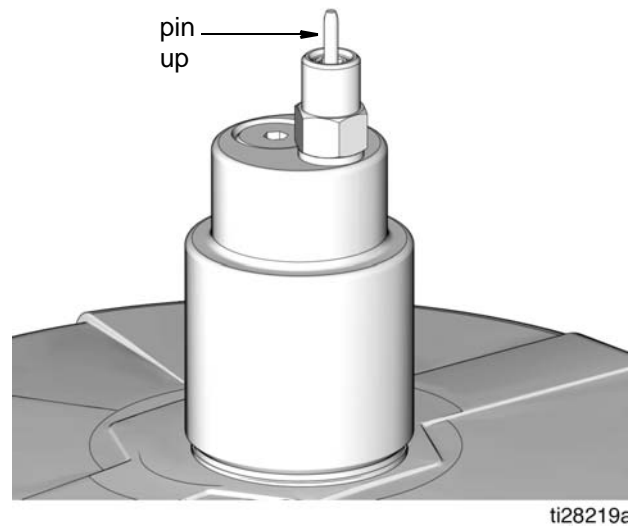

FIG. 22
2. Connect Supply Hose (J) at Quick Connect (V).
3. Turn on remote filling station pump (F) and fill the G3 reservoir (D) until the indicator pin on the Auto-Fill Valve pushes up as shown in FIG. 22. The pressure in the refill pump (F) builds and the pump stalls.